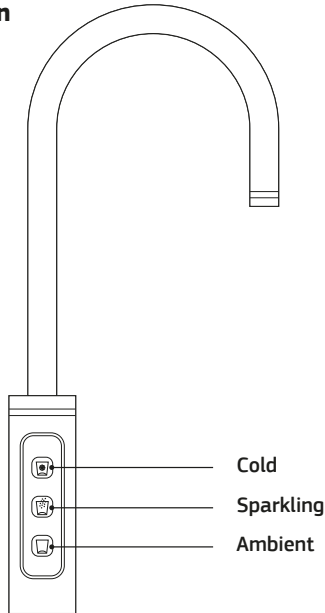

Fig.2
16. Attach the BLACK tube to the CO₂ connection at the back of the unit and CO₂ bottle (See Fig.2).